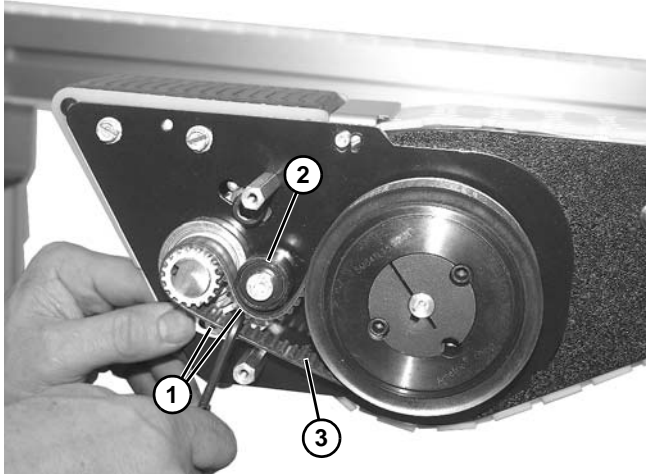

Figure 160
2. Loosen two socket head screws (**Figure 160, item 1**) holding tensioning pulley (**Figure 160, item 2**) onto timing belt (**Figure 160, item 3**).
3. Remove timing belt (**Figure 160, item 3**) from assembly.